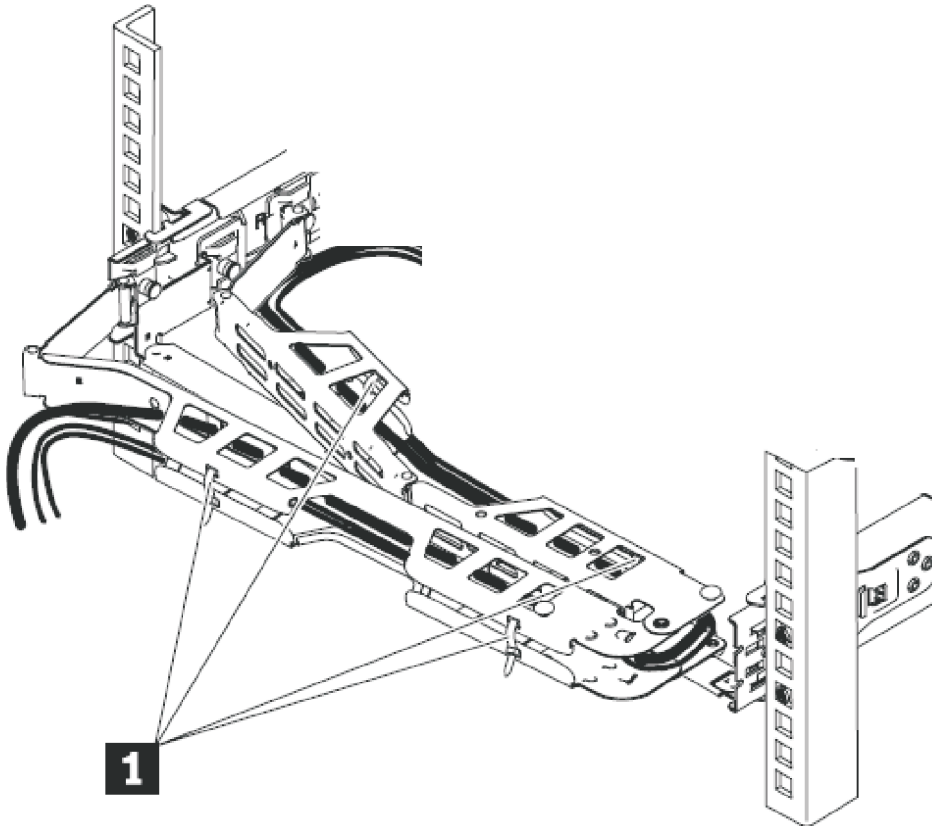

Figure 29. Connecting and routing the cables
- a. Route the data cables and power cords along the cable-management arm, as shown **1** in Figure 29 on page 34.